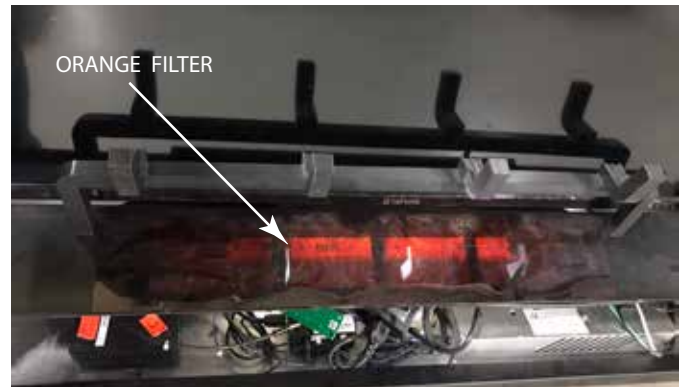

Figure 4.16 Place Filter
3. Place the orange fuel bed filter onto the base tray. The filter sits between the grates as shown and the hole in the filter is placed over the positioning tab. See Figure 4.16.